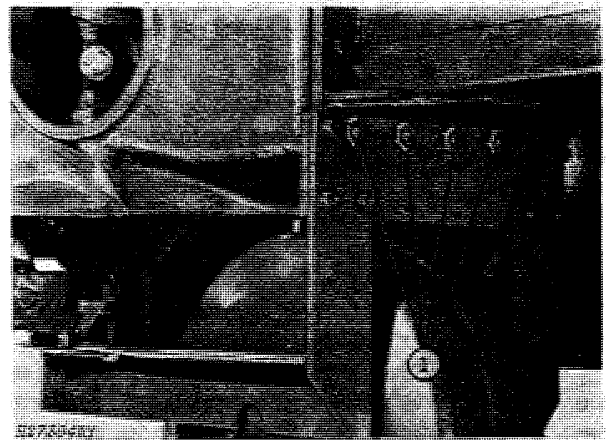

Fig. 1-Attaching Shipping Wheel
1. Attach shipping wheel to the four 1/2-inch cap screws with special nuts (Fig. 1).